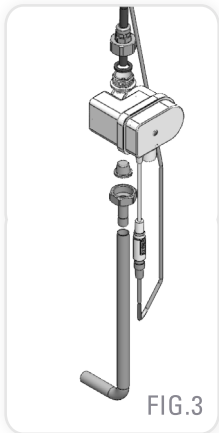

FIG.3
10. Connect the flexible tube to the solenoid valve body integrated in the dual power input box. (See FIG.3)